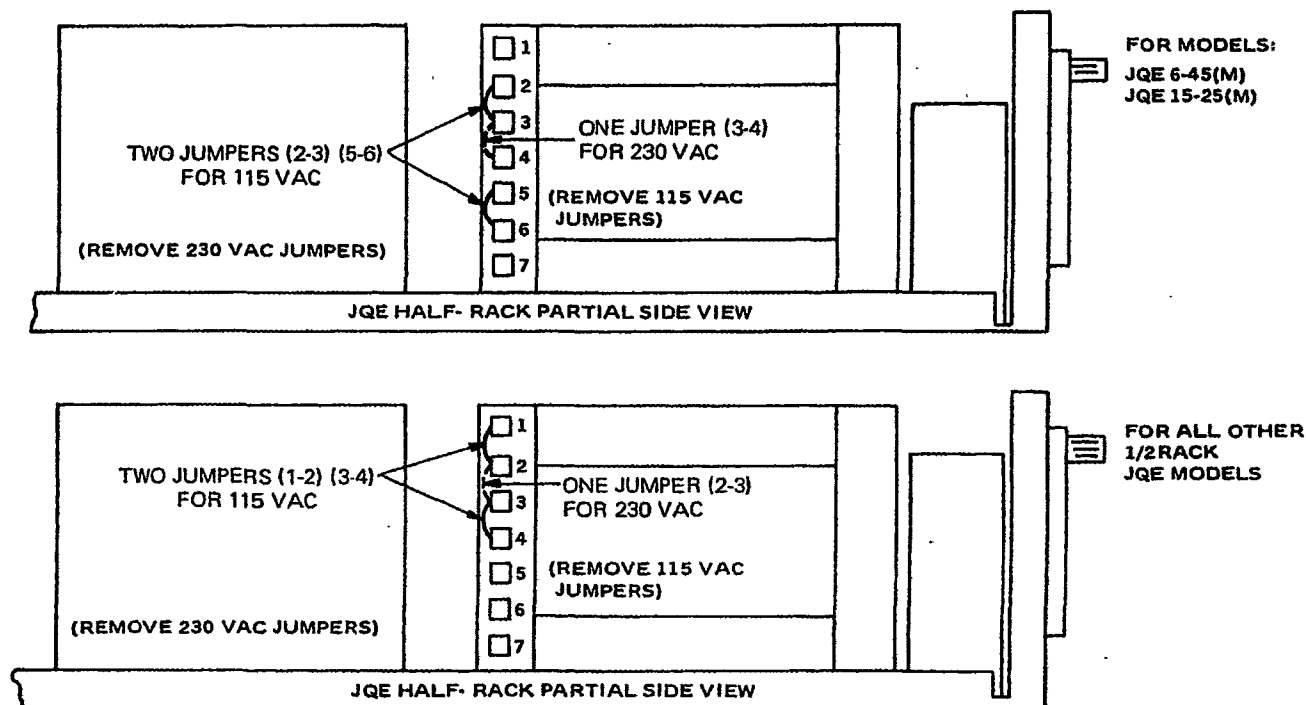

FIG. 2-2 CONVERSION TO 230V AC LINE OPERATION
- 2-5 This power supply is normally supplied for operation on a single phase, nominal 115V AC line. For conversion to 230V AC line operation, refer to FIG. 2-2. Remove the two wire jumpers between transformer terminals indicated. Re-connect one (1) jumper between terminals indicated. Do not change any other wiring on the transformer. Change main fuse value (F201) to 1/2 its former rating.